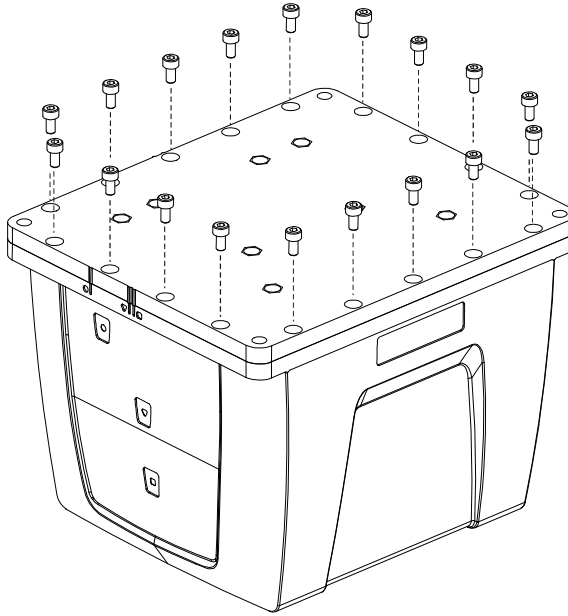

Figure 54: Screw Enclosure Base to Body
8. While squeezing and holding the enclosure body and base together to maintain tight contact, carefully turn the assembly over and place it on its top, as shown in *Figure 54*. Using a 3 mm hex bit, lightly fasten four equally spaced M4 screws to hold the parts together. Apply thread-locking fluid to each screw before inserting. Install the remaining screws in similar fashion. Tighten all screws then check all of them again for tightness. Tighten these screws to 1.36-1.58 N-m (12-14 lb-in). Do not over-tighten.